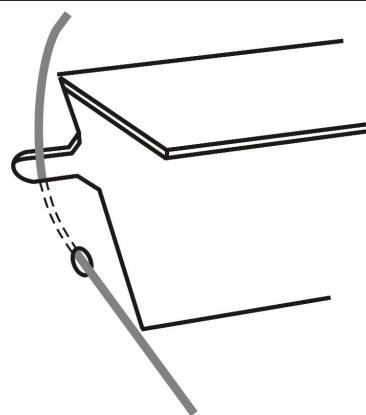

Figure 15. Upper cable retention
5. The rear of the hotbox has a slot and hole each side of the outlet opening. Assemble one end of the cable to the top of the fire by passing it through the small round hole and locking by positioning the cable in the adjacent slot (See figure 15). Give the cables a pull so that they grip.